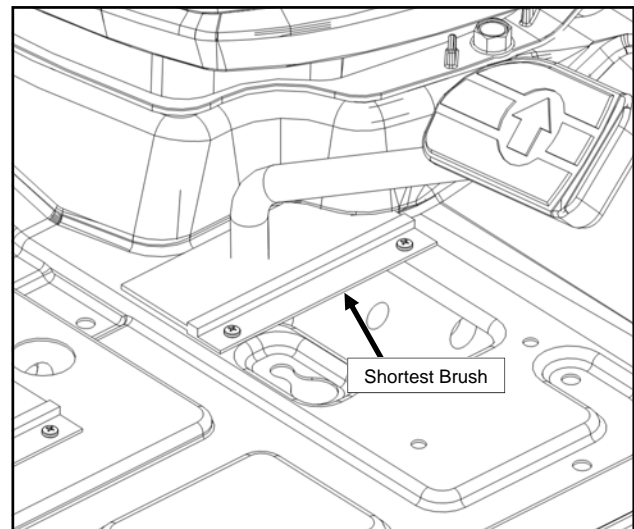

Figure 3.1 (Forward Pedal Brushes)
- 3.1 The shortest brush with only two holes seals off the forward pedal. See Figure 3.1. Follow the same procedure as step 2.1 to secure the brush as shown.